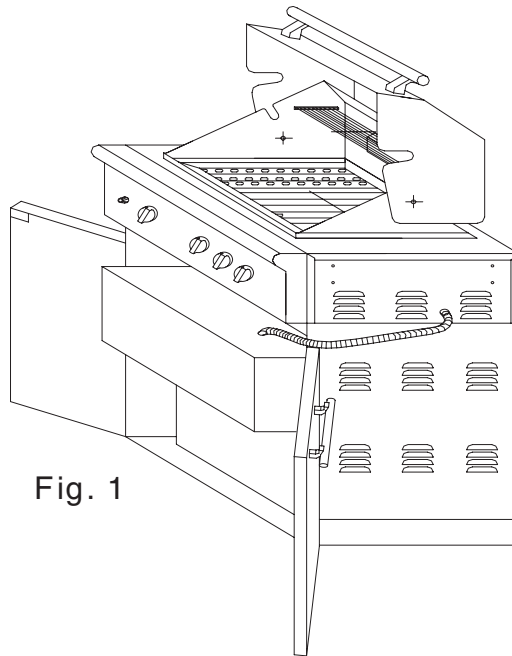

Fig. 1
1. Remove the side burner together with the gas hose from the front door. Make sure the hose is in good condition before installing the side burner (See Fig. 1)